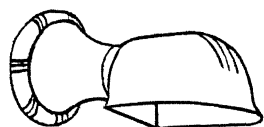

Fig. 15
*Kitchen.*— In addition to a ceiling fixture, wall brackets are needed in most kitchens over the sink, work table, and stove for preparing food, and doing other work. A glass shaded bracket (Fig. 15), or an enclosing glass ceiling unit, is desirable over these surfaces to direct the light downward.